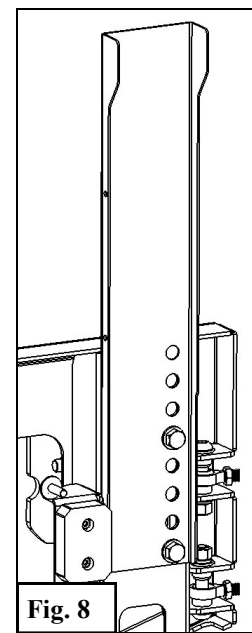

Fig. 8
9. Install the spindle (2) onto the bumper using the supplied M12 Hardware. See Figure 8. Note—do not fully tighten at this time. \*This step is only taken for 59-82035 Important: Use the Class 10.9 Hardware & thick washers. Refer to Part 2 of the Installation for hardware numbers.